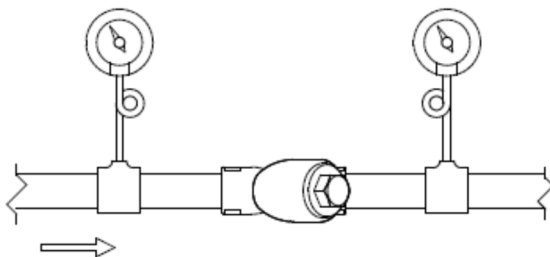

Fig. 3
4. When the fluid is steam, connect piping so that the cap faces sideways in order to minimize the pooling of drain. [See Fig. 3 in “7. Piping Example.”]